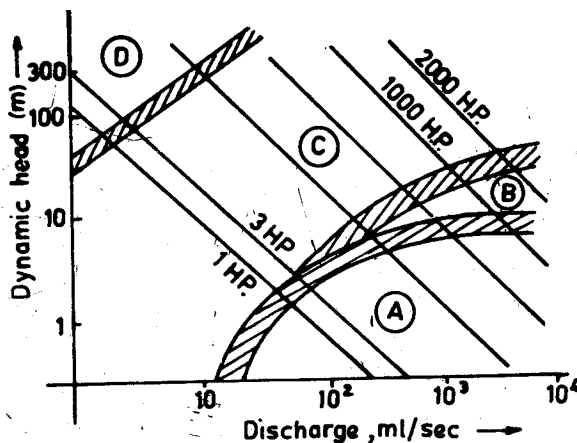

Fig. 20
55. Fig. 20 shows the range of typical applications of centrifugal propeller positive displacement, and jet (mixed flow) pumps. The relative regions for their operation are